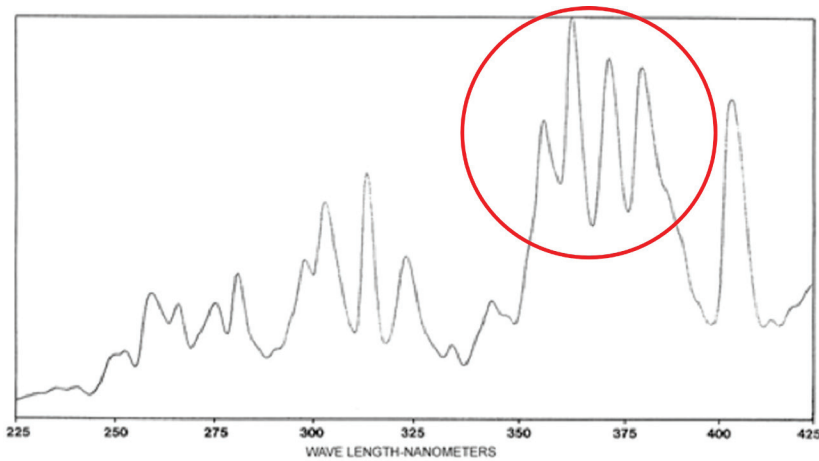

Figure 2. Example of a continuous spectral trace from a mercury-iron bulb with enhanced output between 350-400 nm (red circle)
- Mercury-iron bulbs commonly are referred to as “D” bulbs and have increased output between 350 and 400 nm (Figure 2).